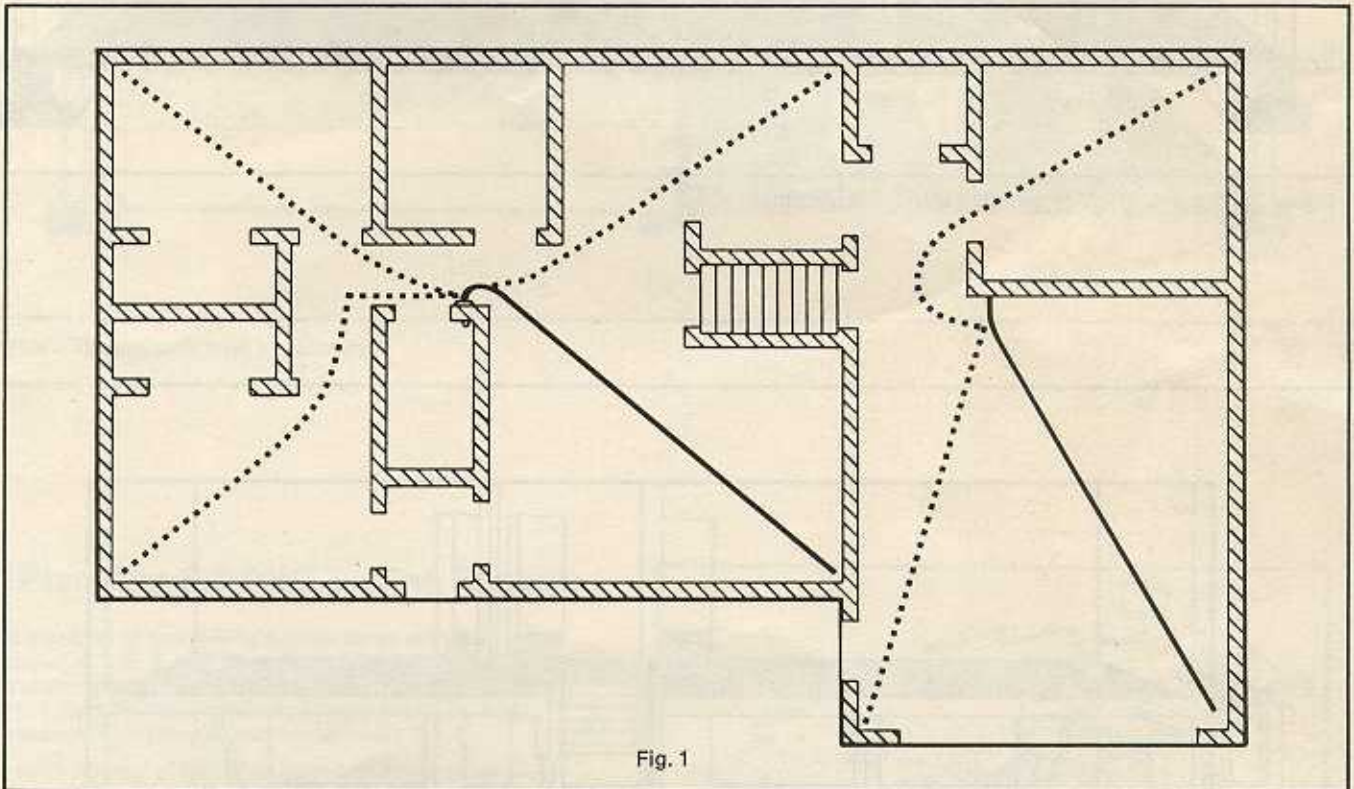

Fig. 1
Figure 1 shows a typical two inlet installation providing complete coverage.
The planning of your tubing system varies with the type of house—fig. 1, 2, 3, 4, 5. The system of tubing connecting the power units to the inlets is composed of two sections; (A) the trunk line that connects several branches, and (B) branch lines that connect to the inlets. Fig. 6.